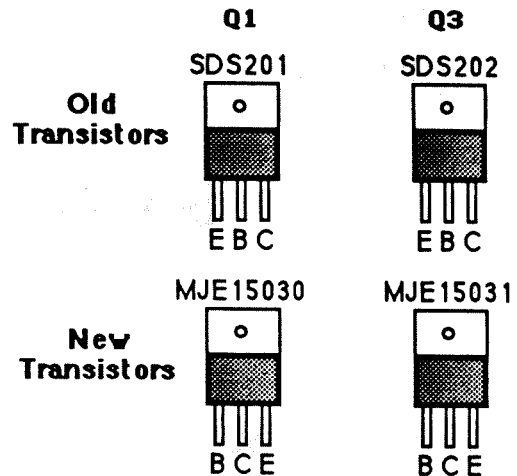

Figure 2. Comparison of Transistor Electrodes - old vs new.
3. If these *in-line* connections are not present (older power supply board), carefully bend the new transistor's leads to match the old transistor's triangular arrangement of connection points. Figure 2 shows a comparison of the electrode layout between the old and new transistors.